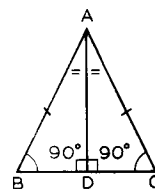

Fig. 1.71
- (1) bisects the unequal side. Thus in Fig. 1.71  $BD = CD$ .
- (2) bisects the apex angle. Thus in Fig. 1.71  $\angle BAD = \angle CAD$ .